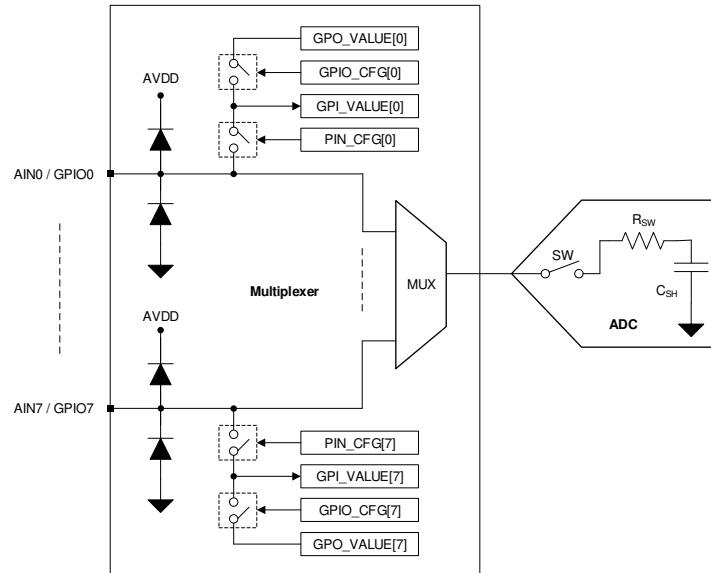

Figure 7-1. Analog Inputs, GPIOs, and ADC Connections
The eight channels of the multiplexer can be independently configured as ADC inputs or general-purpose inputs/outputs (GPIOs). As shown in Figure 7-1, each input pin has ESD protection diodes to AVDD and GND. On power-up or after device reset, all eight channels of the multiplexer are configured as analog inputs.
Figure 7-1 shows an equivalent circuit for the pins configured as analog inputs. The ADC sampling switch is represented by an ideal switch (SW) in series with a resistor (R_{SW} , typically 150 Ω) and a sampling capacitor (C_{SH} , typically 30 pF). During acquisition, the SW switch is closed to allow the signal on the selected analog input channel to charge the internal sampling capacitor. During conversion, the SW switch is opened to disconnect the analog input channel from the sampling capacitor.
To enable write access to the configuration registers for diagnostics, write 0x96 in the DIAGNOSTICS_KEY register. To enable bit-walk test mode, configure BITWALK_EN = 1b. In the bit-walk test mode (see Figure 7-1), the sampling switch (SW) remains open and the test voltage is applied on the sampling capacitor (C_{SH}) during the acquisition phase of the ADC. In diagnostic mode, the conversion process of the ADC remains the same as normal device operation. The ADC starts the conversion phase on the rising edge of \overline{CS} and outputs the code corresponding to the sampled test voltage. The output code of the ADC is expected to be proportional to the test voltage, as shown in Equation 2, after adjusting for DC errors (such as INL, gain error, offset error, and thermal drift of offset and gain errors).